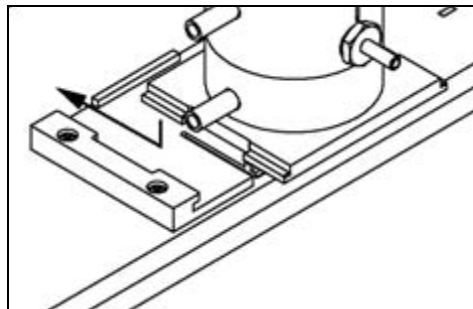

Figure 2-10
1. Place the base of the DMA down into the middle of the mounting plate on the Classifier as shown in Figure 2-10.